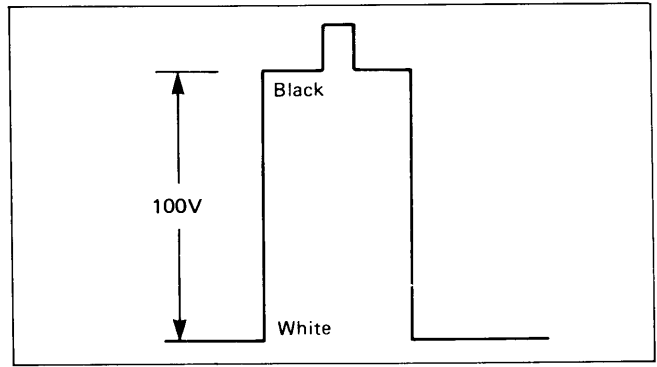

Fig. 47
- 6) Adjust Sub contrast control VR (R713) to achieve 100V on the oscilloscope as shown in Fig. 47.